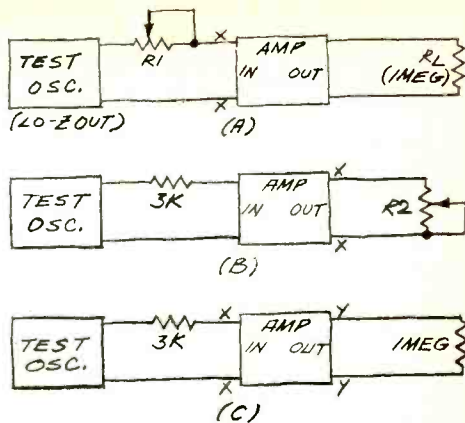

Fig. 9. Testing input/output impedances.
• 8. You may not wish to perform this last step, but if you have an audio generator, use the hookups shown in Fig. 9 to measure the important parameters of the circuit. Figure 9A is used to measure input impedance. Adjust  $R1$  until the voltage at the input is half its maximum value. (The value of  $R1$  should be greater than the estimated input impedance of the amplifier. Then remove  $R1$  and measure its rotor-to-end resistance.